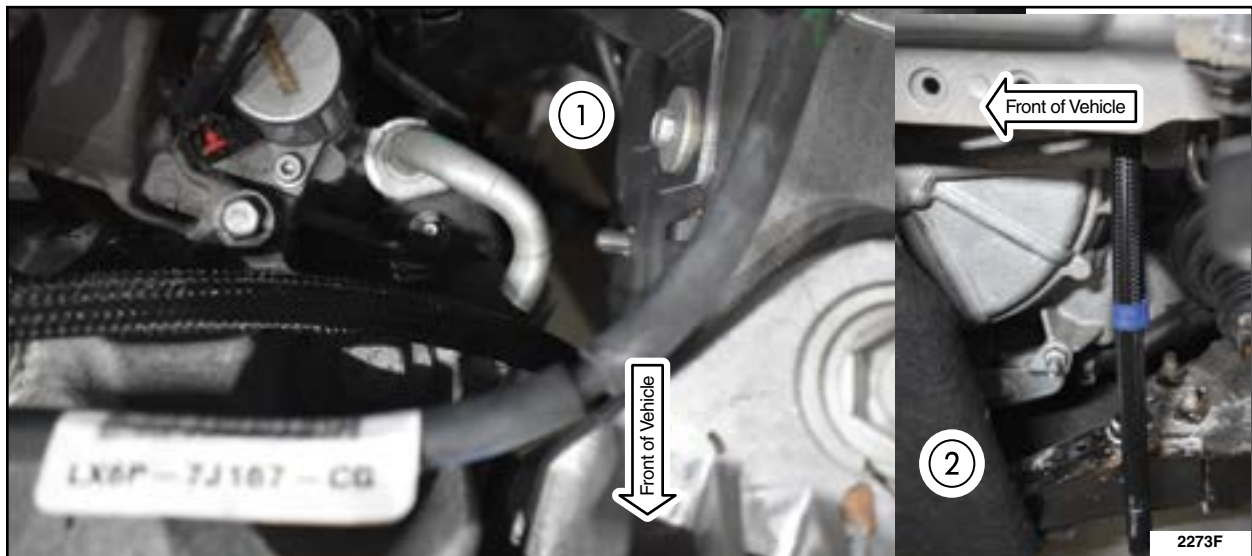

FIGURE 10
24. Feed the rubber hose end through the engine compartment and down into the wheel well. See Figure 10.